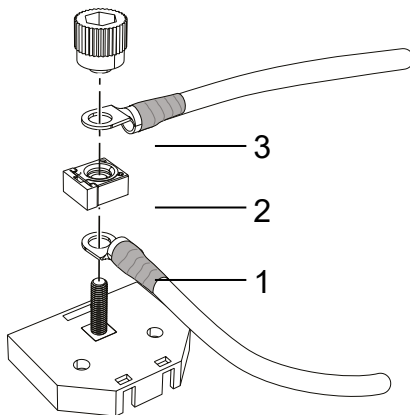
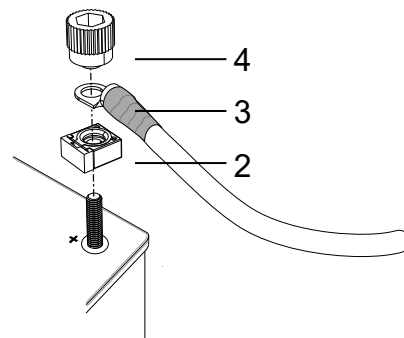

Figure 79. Connection to the fuse box
Figure 80. Connection to the battery's positive terminal
2. If applicable, ensure that the cab switch (CS) is in the "Off" position.
3. When using a fuse box, connect the cable (1) to the battery's positive terminal and to the fuse box and place the fuse (2) above, see Figure 79.
4. When connecting directly to the positive battery terminal, place the fuse (2) on the positive terminal, see Figure 79.
5. Connect the main power cable (3) to the fuse box / positive terminal, see Figure 79 - Figure 80.
6. Screw tight the cable connections and fuse with the knob (4). Install the cables at 90° or 180° from each other. Install the fuse at right angles to the cables; see Figure 79 - Figure 80.